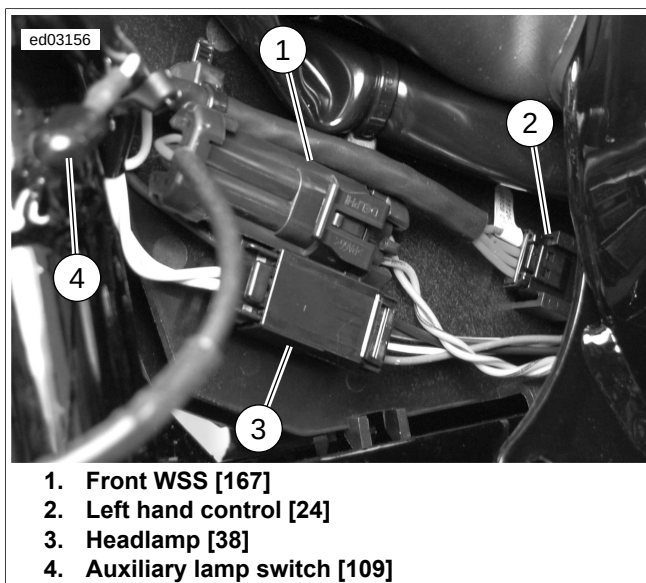
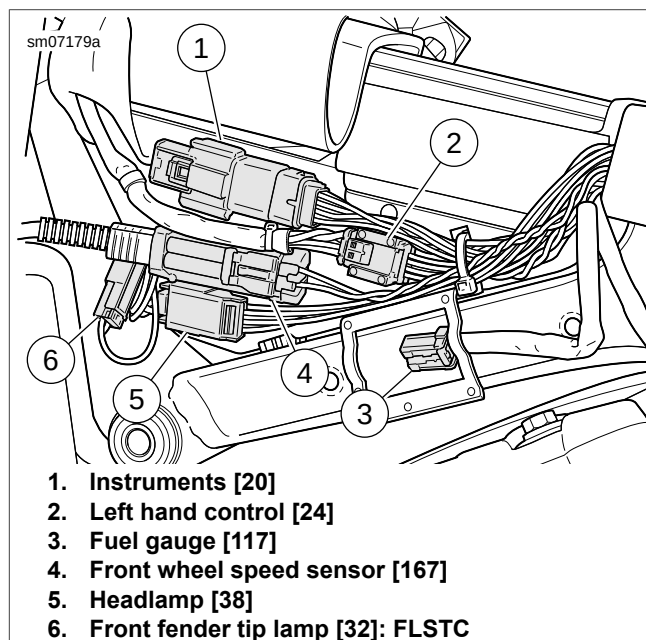

Figure C-7. Under Fuel Tank Left Side: FXS
Figure C-8. Under Fuel Tank Left Side
2. See Figure C-7 or Figure C-8. Disconnect front WSS connector (1).
3. See Figure C-7 or Figure C-8. Connect front WSS connector (1).